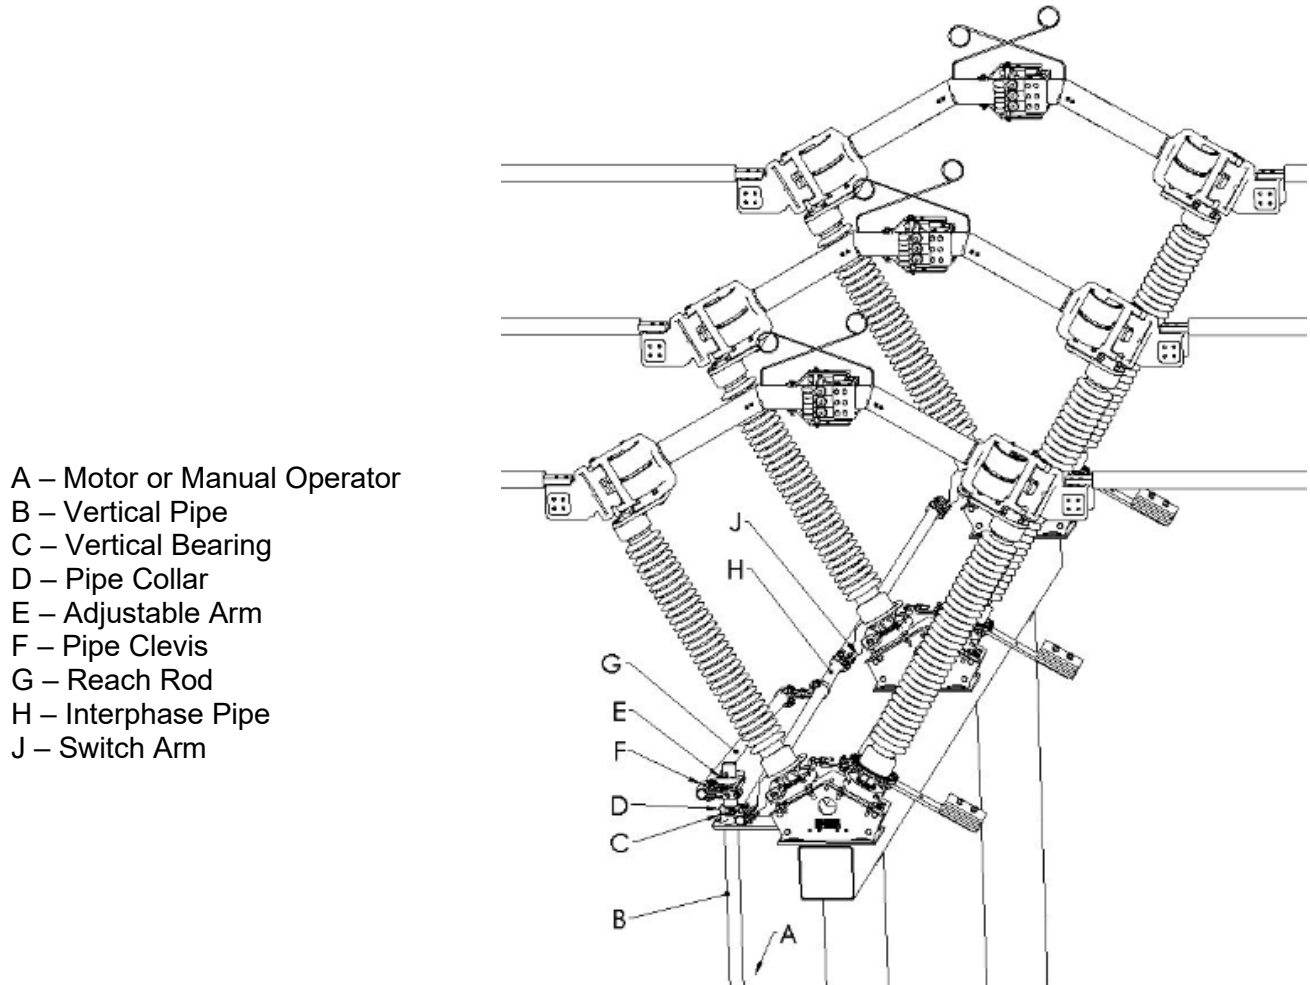

Figure 12: Typical Operating Mechanism
3. Refer to the Operating Mechanism drawing, and install all mounting brackets, bearings, bushings, pipe clevises, switch operating device, adjustable arm, reach rod, and other necessary components. Refer to **Figure 12**.